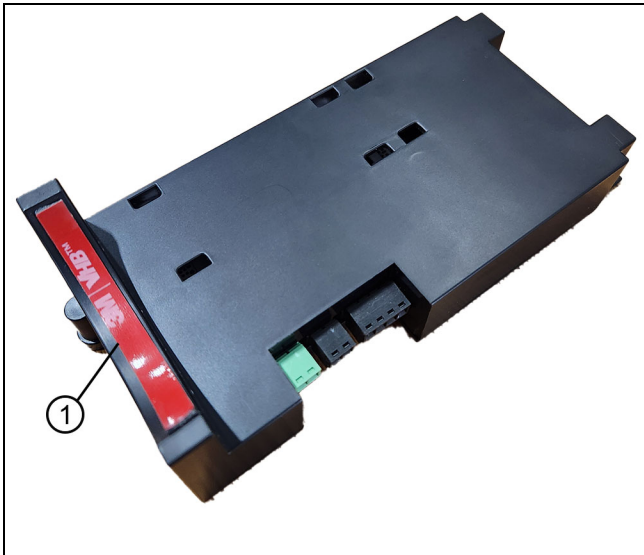

Figure 24
1. Peel the backing from the VHB tape on the module. See Figure 24.